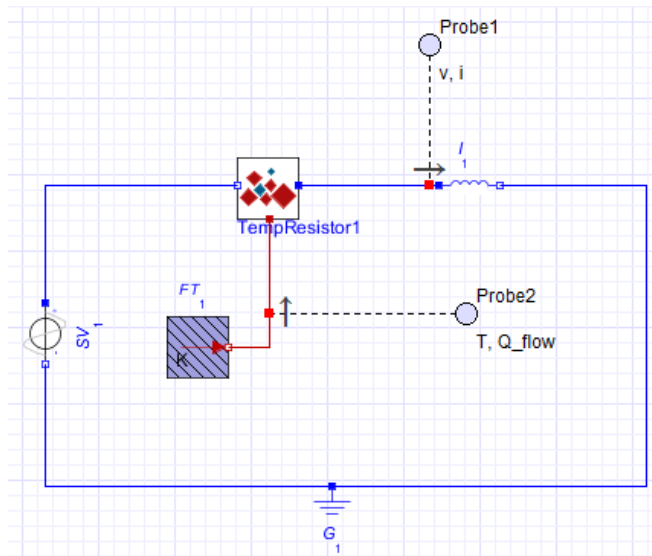

Figure 6.4: Temperature Dependant Resistor
18. Create the model shown in **Figure 6.4** and specified model components and their settings from **Table 6.1**.